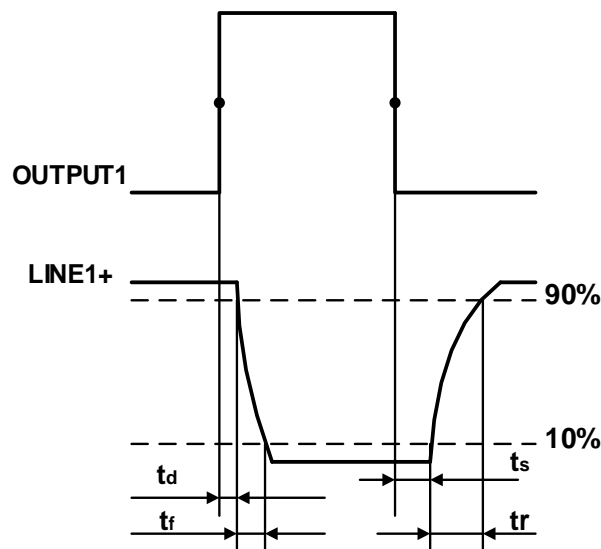

Figure 7-6 Parameter of opto-isolated output circuit
- Rising time delay =  $t_r + t_d$ :  $<50\mu s$  ( $0^\circ C \sim 45^\circ C$ ) (parameter description is shown in Figure 7-6)
- Falling time delay =  $t_s + t_f$ :  $<50\mu s$  ( $0^\circ C \sim 45^\circ C$ ) (parameter description is shown in Figure 7-6)
- Rising time delay =  $t_r+t_d$ :  $<20\mu\text{s}$  ( $0^{\circ}\text{C}\sim 45^{\circ}\text{C}$ ) (parameter description as shown in Figure 7-6)
- Falling time delay =  $t_s+t_f$ :  $<20\mu\text{s}$  ( $0^{\circ}\text{C}\sim 45^{\circ}\text{C}$ ) (parameter description as shown in Figure 7-6)